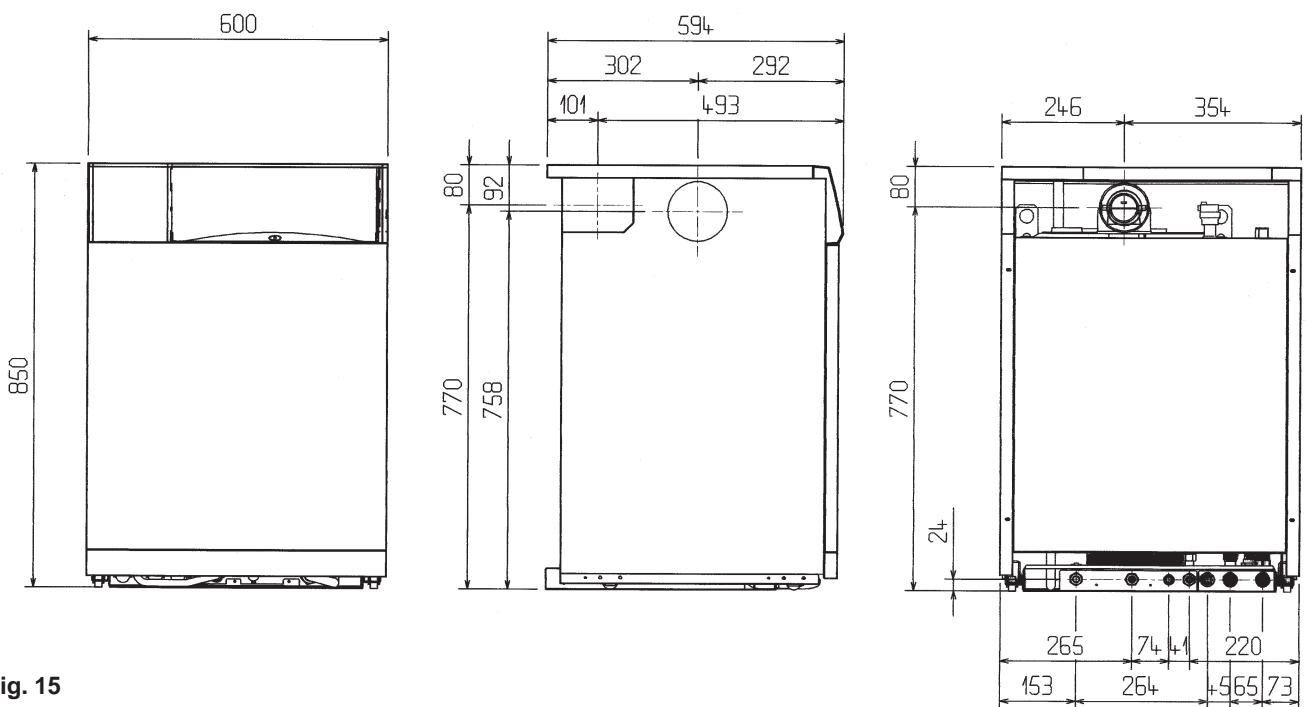

Fig. 15
**5.3.4** Refer to figs.15 for relevant dimensions for locating the flue hole: Where it is remote from the boiler take special care to ensure hole is at the correct level. Drill a 105mm hole through the wall to allow passage of the flue pipe.
Using the dimensions given in fig. 15, mark and drill a 115mm level hole for the passage of the flue pipe.
Using the dimensions given in fig. 15 & 16b as a reference, mark and cut a 107mm hole in the ceiling and/or roof.